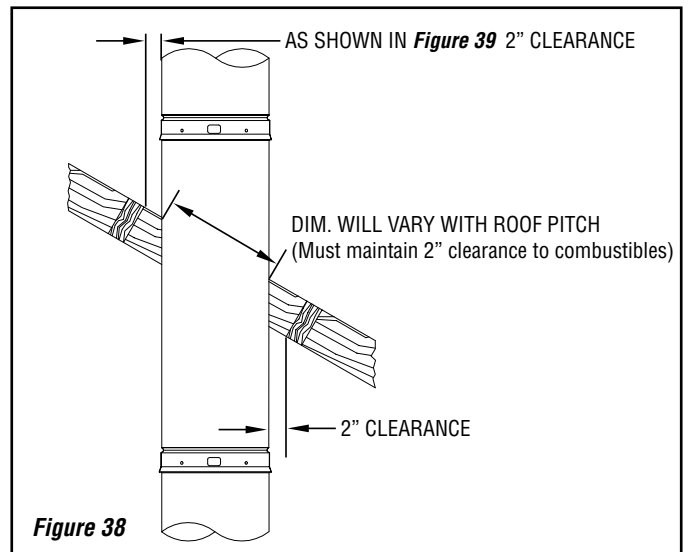

Figure 38
2. Install the next SP chimney section through the roof. See **Figure 38**.